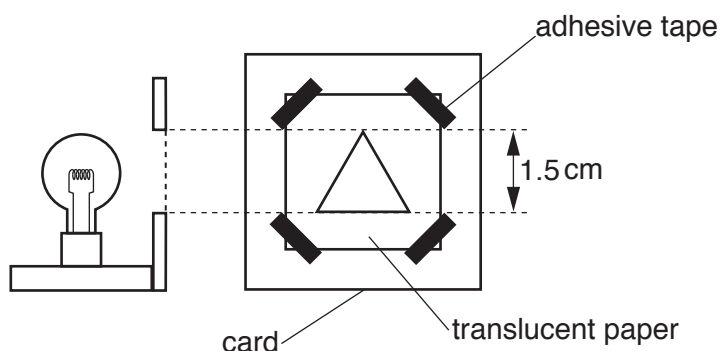

Fig. 3.1
- (iii) Illuminated object consisting of rigid card with a triangular hole of height 1.5 cm (see Fig. 3.1). The hole is to be covered with thin translucent paper (e.g. tracing paper) secured with adhesive tape.